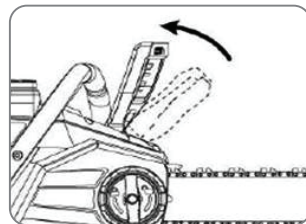

Fig. 2a
- Pull the brake baffle toward the battery pack and ensure that it remains in the working position (see fig. 2a).